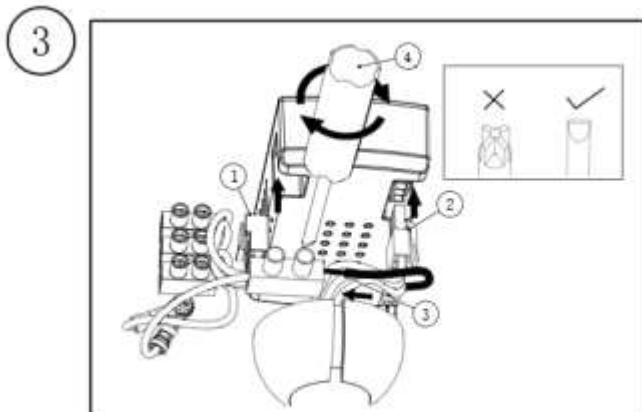
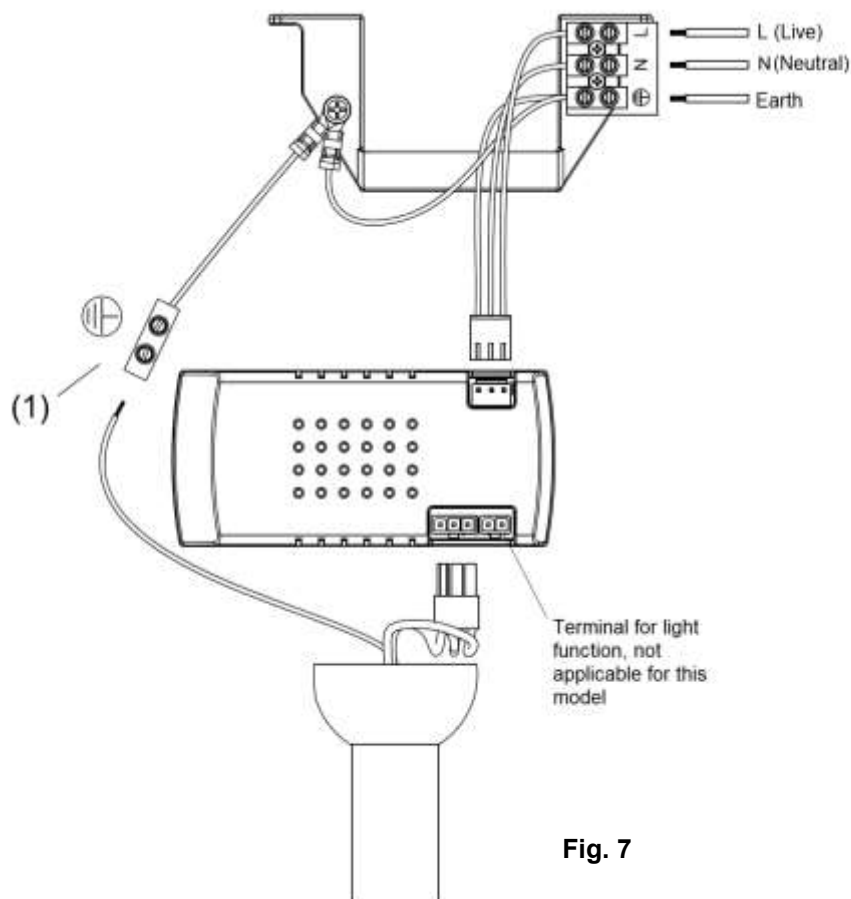

Fig. 6.3
Fig. 7
3. Connect the wiring (Fig.6.3 & **Refer to the wiring diagram in Fig.7 for more information**)
WIRING DIAGRAM (FIG. 7)
Ensure the motor earth wire is connected to the single earthing terminal block “1” in the diagram below. (Fig. 7)